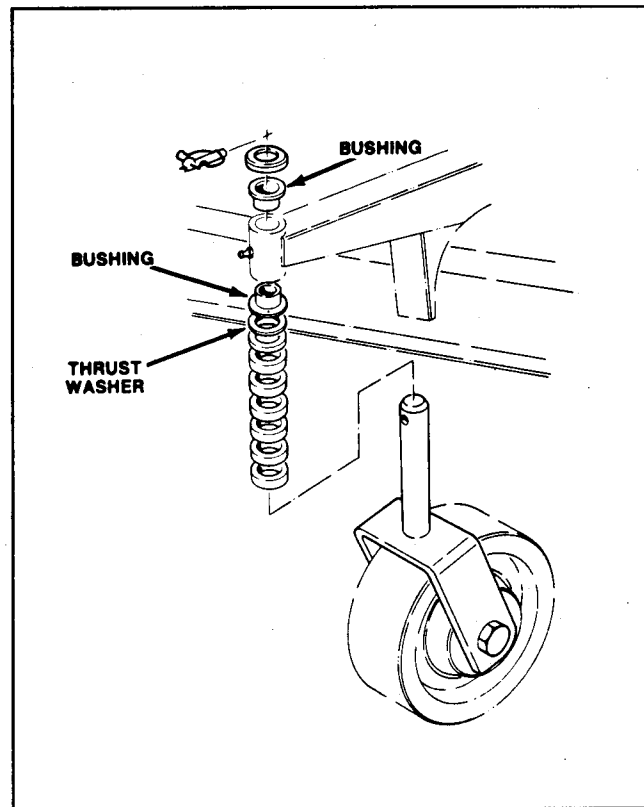

Figure 32
3. Pull the castor spindle out of the mounting tube. Allow the thrust washers to remain on the castor fork spindle (Fig. 32).
4. Use a pin punch to drive the bushings out of the tube (Fig. 32). Clean the inside of the tube to remove any dirt.